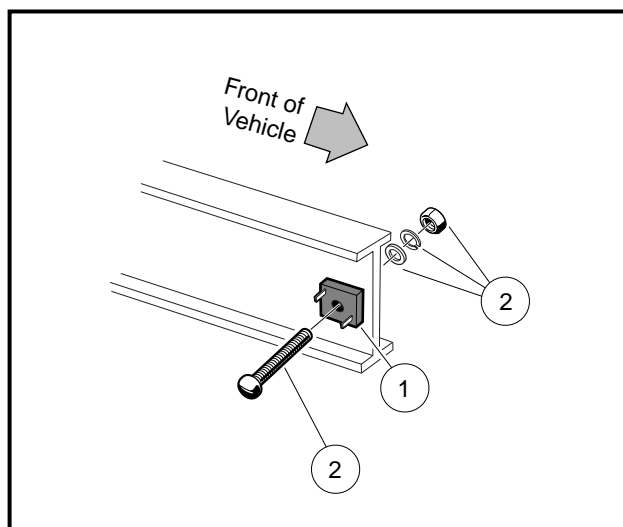

Figure 12-17 Diode
2. Disconnect wires from the diode (1) (**Figure 12-17, Page 12-14**).
3. Remove the mounting hardware (2) from the diode and remove it from the vehicle.
1. Mount the diode to the frame using the mounting hardware. Tighten to 25 in-lb (2.8 N-m) (**Figure 12-17, Page 12-14**).